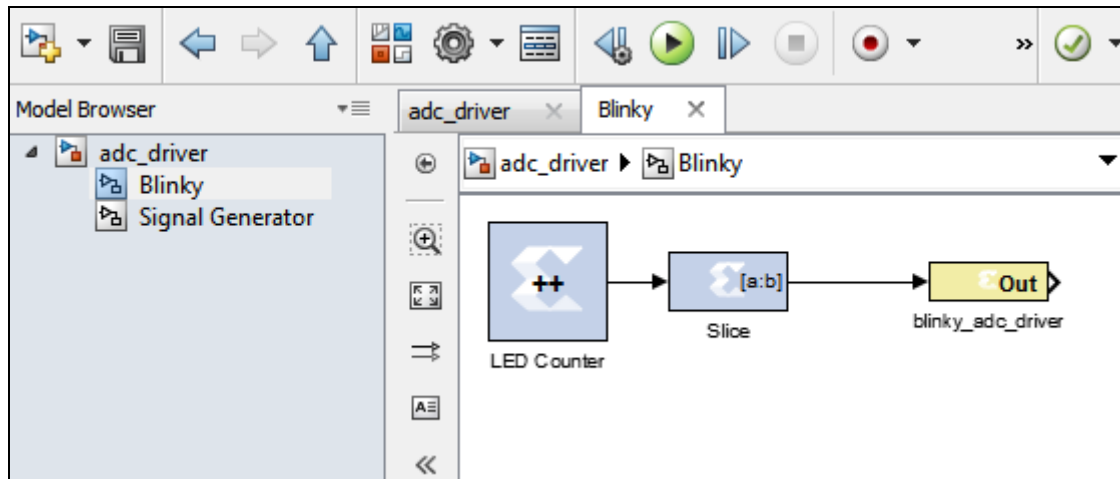

Figure 1-3: Blinky Subsystem
- The white box labeled “Blinky” is simply a subsystem of the **Counter Slice** and LED **Gateway Out** blocks. The Blocks used for this subsystem are shown in Figure 1-3. You can create a subsystem from any number of blocks in your design by first adding the blocks to the design, selecting them, and pressing Ctrl+G, or right clicking and selecting **Create Subsystem from Selection**. Configure the Blinky subsystem identically to the other LED out systems in the previous labs.